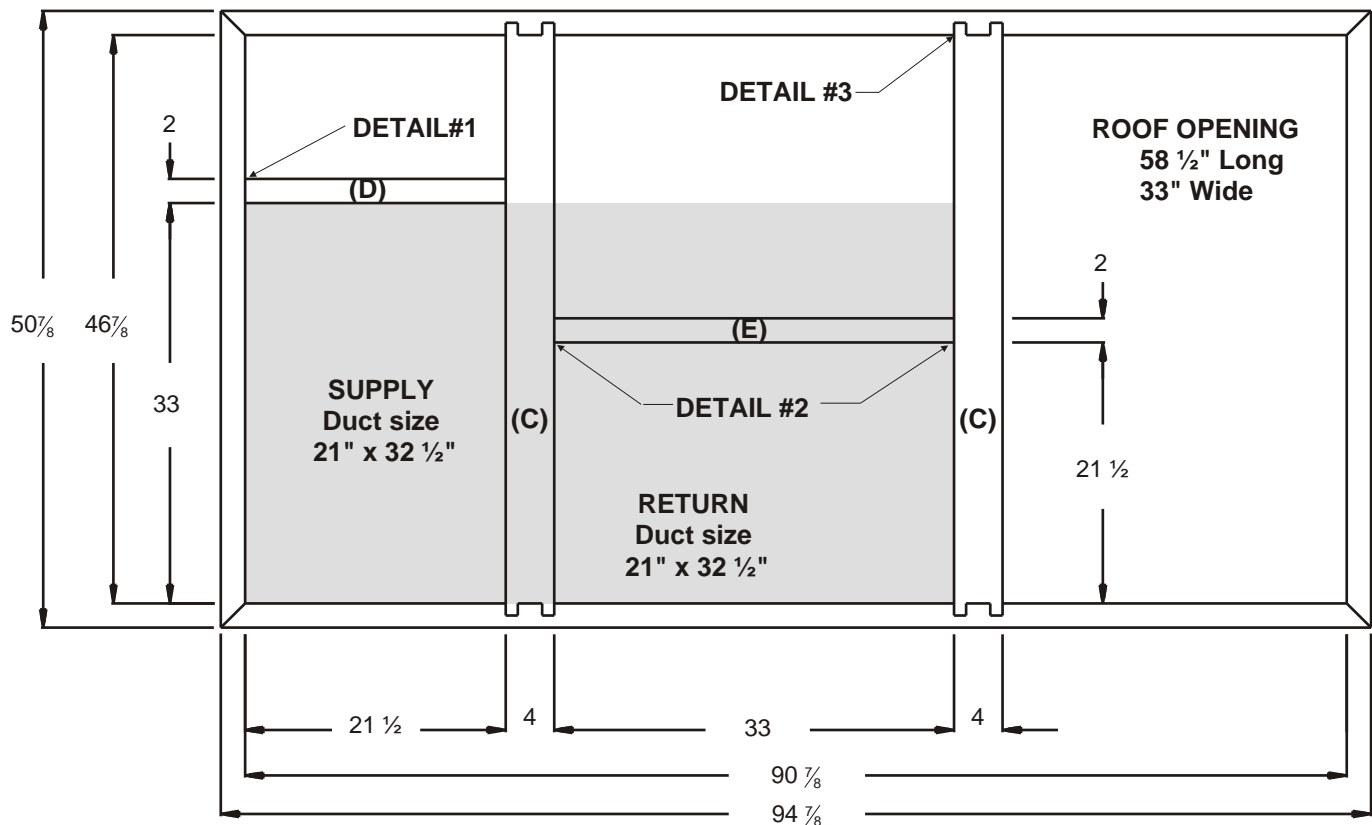

Figure 6
Install the vertical duct support (C) as shown with opening over the desired duct location as shown in Figure 6.
Install the horizontal duct support (D) as shown in Figure 6.
Install the horizontal duct support (E) as shown in Figure 6.